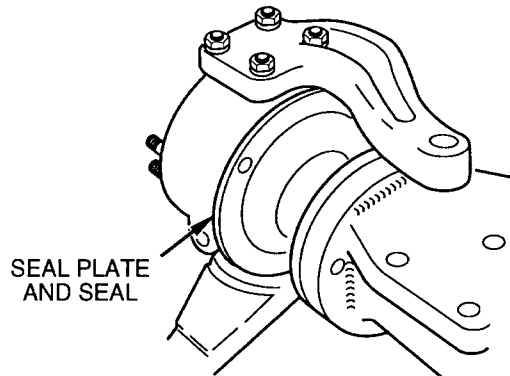

Figure 8 Removing Seal Plate and Seal
9. Remove the ball seal capscrews and carefully pry out the seal (7). (See Figure 8).
- Tie rod arm (17) from bottom of ball socket (16)
- Steering arm (9) or booster arm from top of ball socket (16)
- Dowels (12)